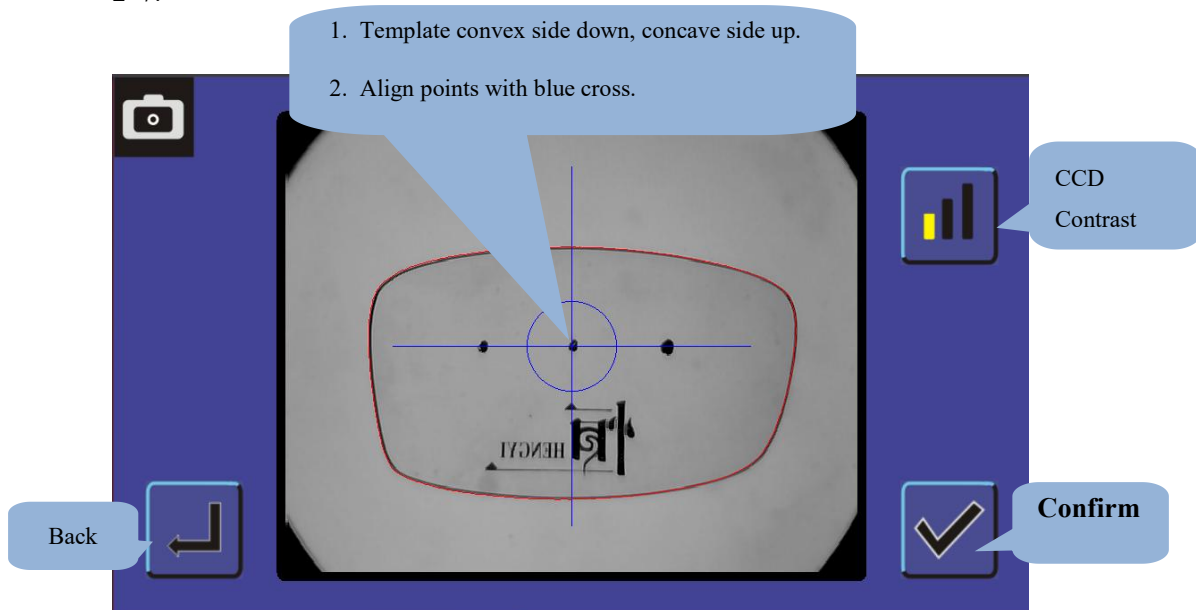

Figure 2-4
- Align the three points on the template with the horizontal line of the blue cross, as shown in Figure 2-4.